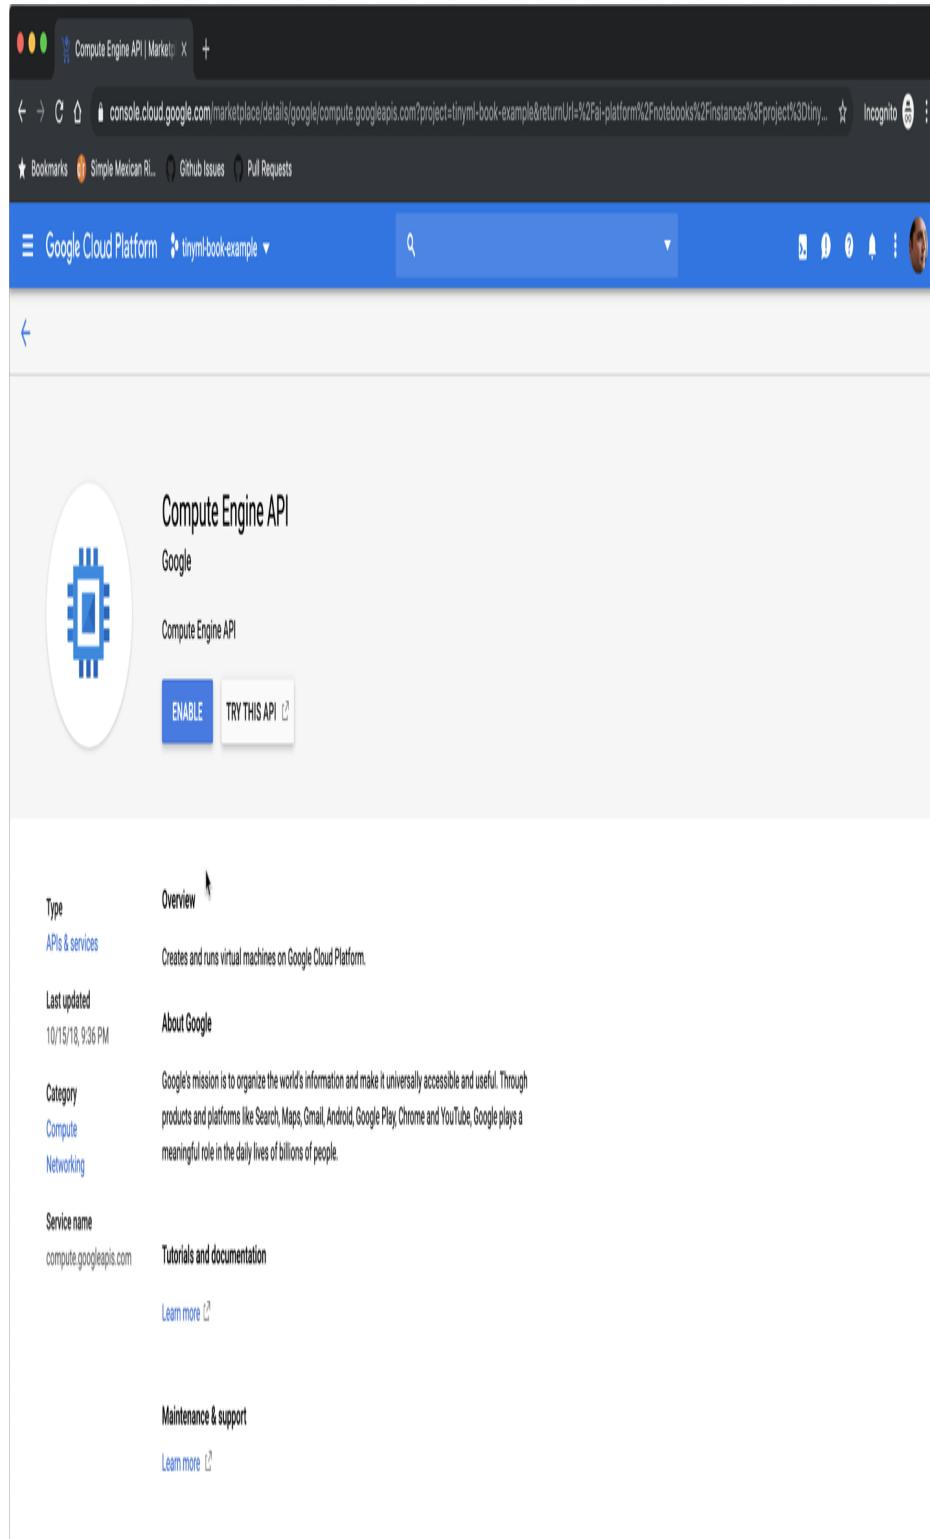

Figure 10-2. The Compute Engine API screen
4. You might see a prompt asking you to enable the Compute Engine API to proceed, as depicted in Figure 10-2; go ahead